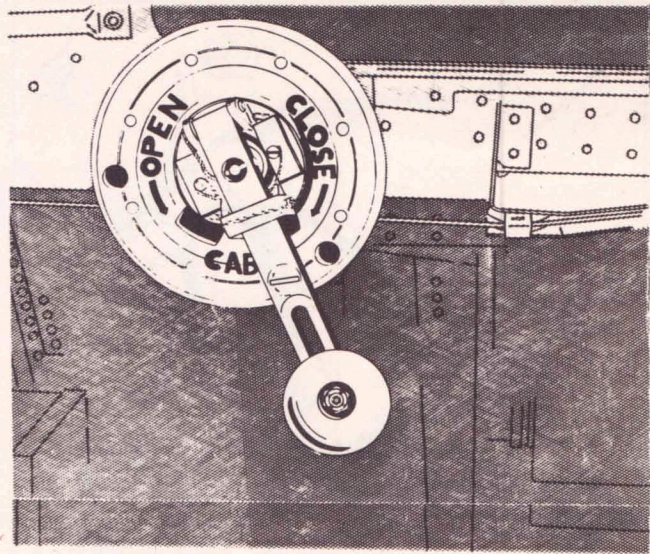

Figure 21—Gunner's Cabin Crank
(1) **GUNNER'S COCKPIT ENCLOSURE.**—The gunner's cockpit enclosure is operated by a crank and drum on the right hand sill, forward of the seat. (See figure 21.) Rotation of the crank counterclockwise opens the enclosure; clockwise rotation closes it. This enclosure can be locked in the open and closed positions by seating the plunger on the arm of the crank in one of the holes provided in the drum, then pushing down on the thumb latch on the crank.